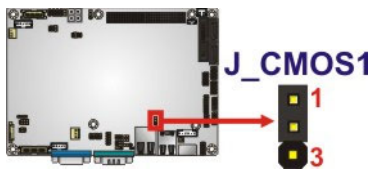

Figure 4-4: Clear CMOS Jumper
Jumper Location:	See Figure 4-4
The location of the clear CMOS jumper is shown in **Figure 4-4** below.
- Jumper Location:** See Figure 4-4